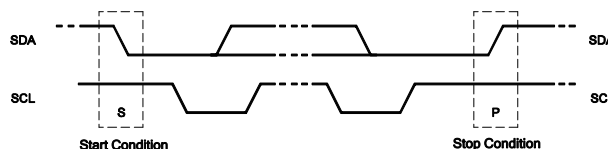

Figure 16: Start and Stop Conditions
The start (S) and stop (P) commands are signaled by the master device, which signifies the beginning and the end of the I²C transfer. A start command is defined as the SDA signal transitioning from high to low while the SCL signal is high. A stop command is defined as the SDA signal transitioning from low to high while the SCL signal is high (see Figure 16).